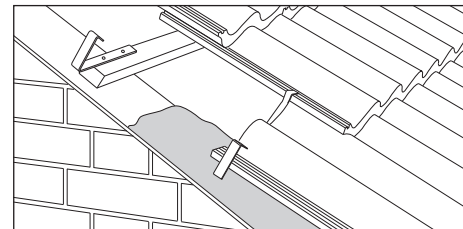

Fig. 15 – Clip all verge tiles
- 1 When required, nail verge clips to top of battens with upstand level with edge of undercloak (Fig. 15).